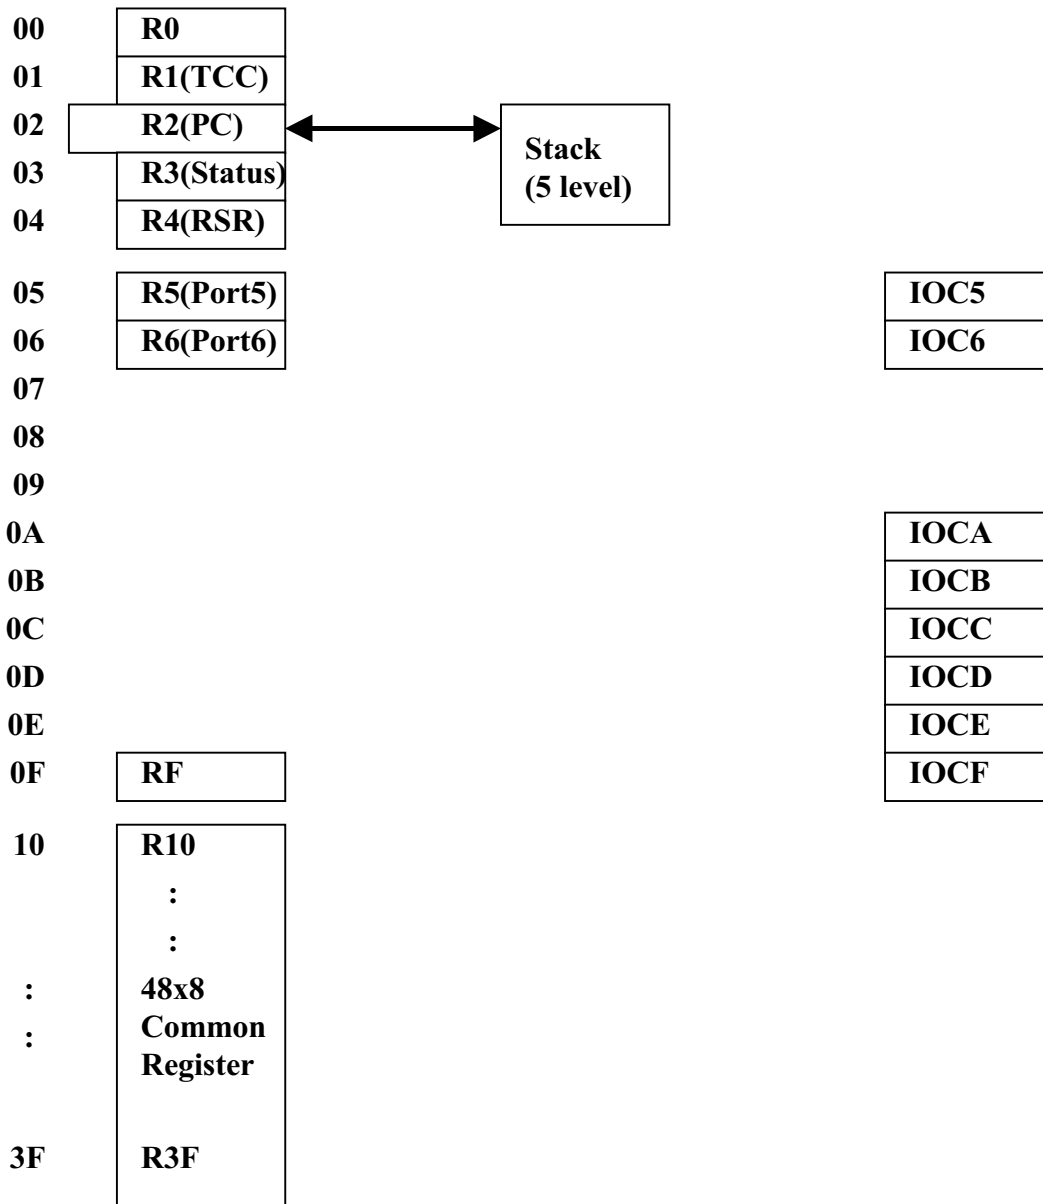

Fig. 4 Data Memory Configuration
• See the configuration of the data memory in Fig. 4.